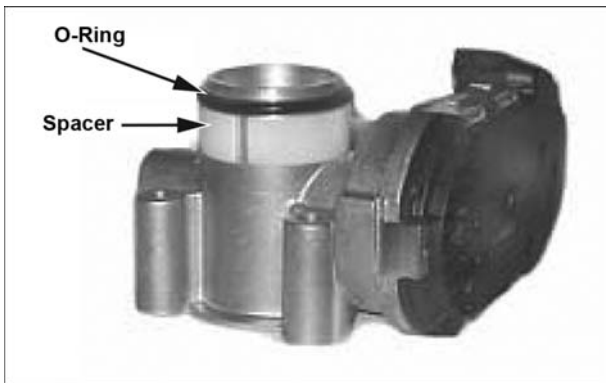

Figure 31. O-Ring and Spacer Within Mixer Adapter Assembly
**NOTE :** A plastic O-ring spacer and an O-ring are inside the mixer/adapter assembly. Be careful not to lose these items when removing the assembly from the throttle (Figure 31).